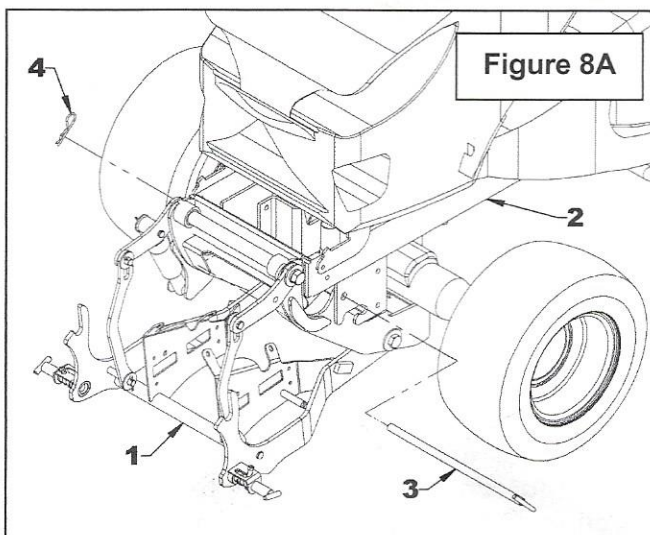

Figure 8A
2. **Figure 8A:** Attach the subframe (item 1) to the tractor (item 2) with the 12 1/2" lg "T" pin (item 3) and the 1/8" x 2 9/16" lg. hairpin (item 4).